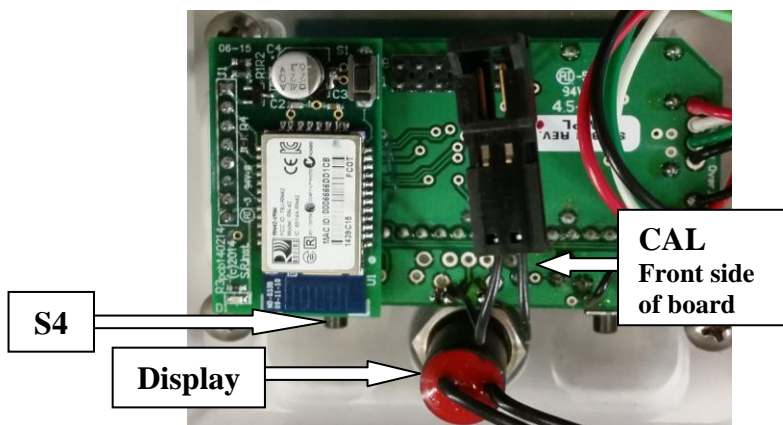

Figure 4: Calibration Buttons
STEP 4: Press the calibration button (Figure 4). The display will read “CAL”.